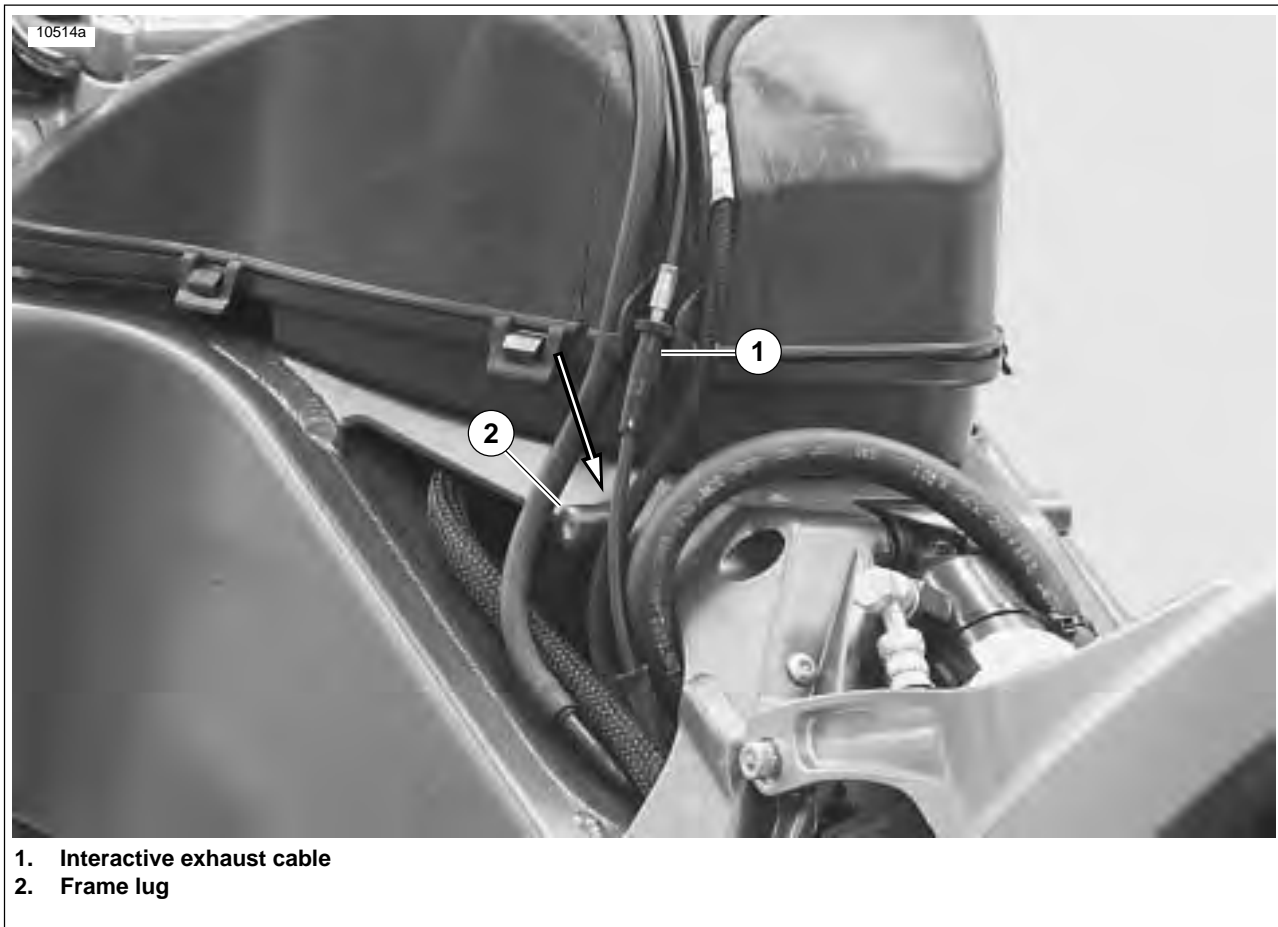

Figure 1-45. Correct Cable Routing Behind Frame Lug
11. See Figure 1-45. Verify that the interactive exhaust cable (1) is routed behind the frame lug (2) before installing air intake cover.